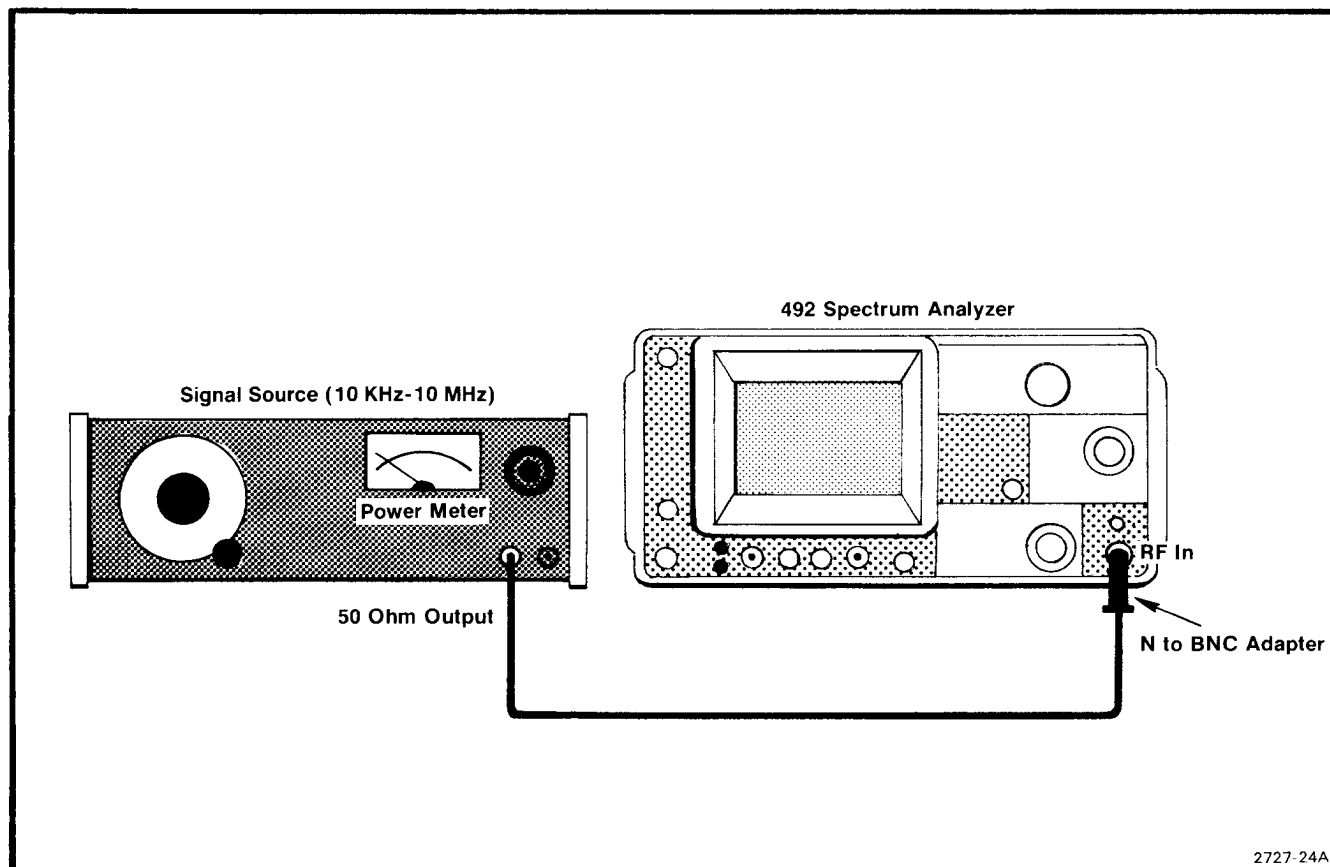

Fig. 3-4. Test equipment setup for checking the 10 kHz—10 MHz frequency response.
a. Test equipment setup is shown in Fig. 3-4. Set the front-panel controls as follows:
a. Test equipment setup is the same as the Part 1 procedure (Figs. 3-4 through 3-6). Set the front-panel controls as follows: